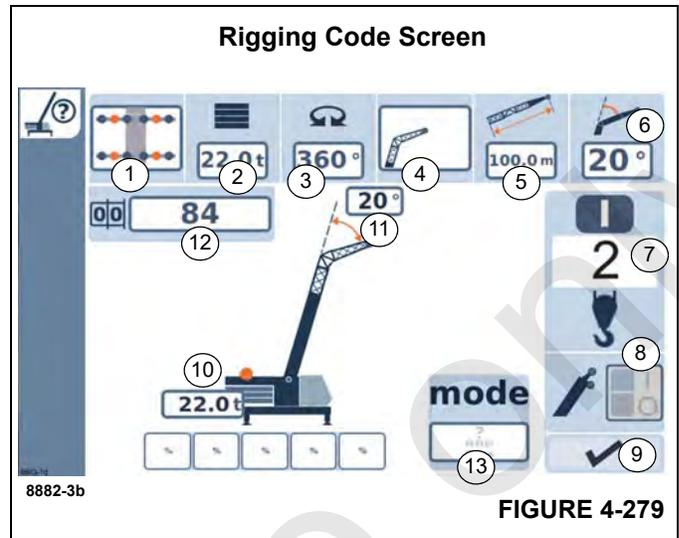

FIGURE 4-279
- Either enter the individual components (1), (Figure 4-279) to (8), (Figure 4-279) one after the other.
- Or enter the RCL code (12), (Figure 4-279) and the reeving (7), (Figure 4-279).
- with (13), (Figure 4-279).